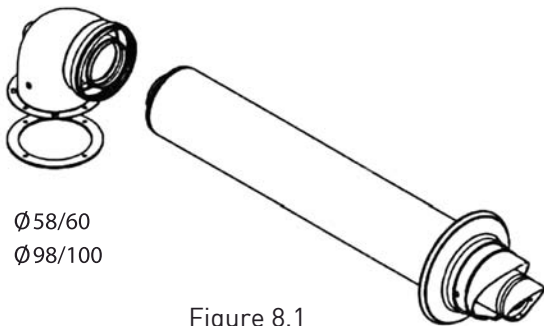

Figure 8.1
**8.2** The standard 700 +/-5 mm flue kit (Figure 8.1) can be routed to the rear, left or right of the appliance by means of a 90° degree bend. This can be purchased with the boiler but there are other various types of flue available if required. The bend is connected to the boiler using the screws provided and sealed with the gasket.